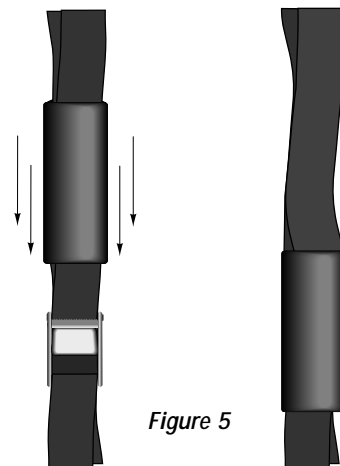

Figure 5
14. Slide the security strap rubber sleeve over the metal buckle to prevent the buckle from damaging your vehicle's finish. See figure 5. **ALWAYS SECURE SAFETY STRAP WITH SLEEVE OVER THE BUCKLE!**